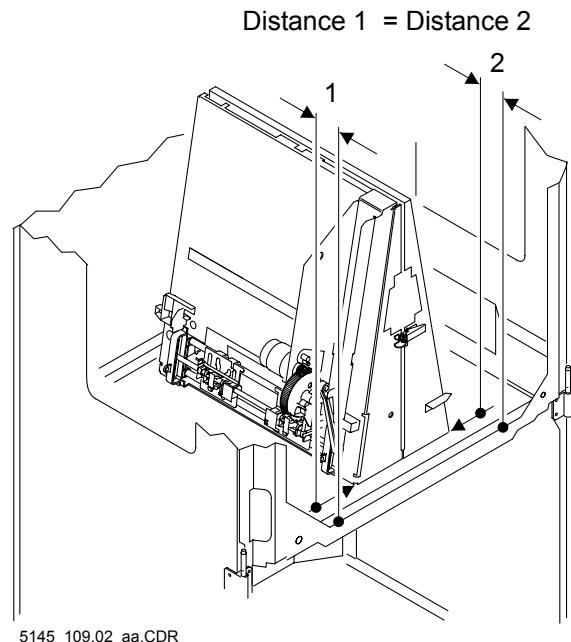

Figure 2
- (1) Middle axis of the two cassette modules (1) and hole in the frame (2) are exactly on one line (3) (see Figure 2).
- (2) Distance 1 = Distance 2 if flag is adjusted correctly (see Figure 2).